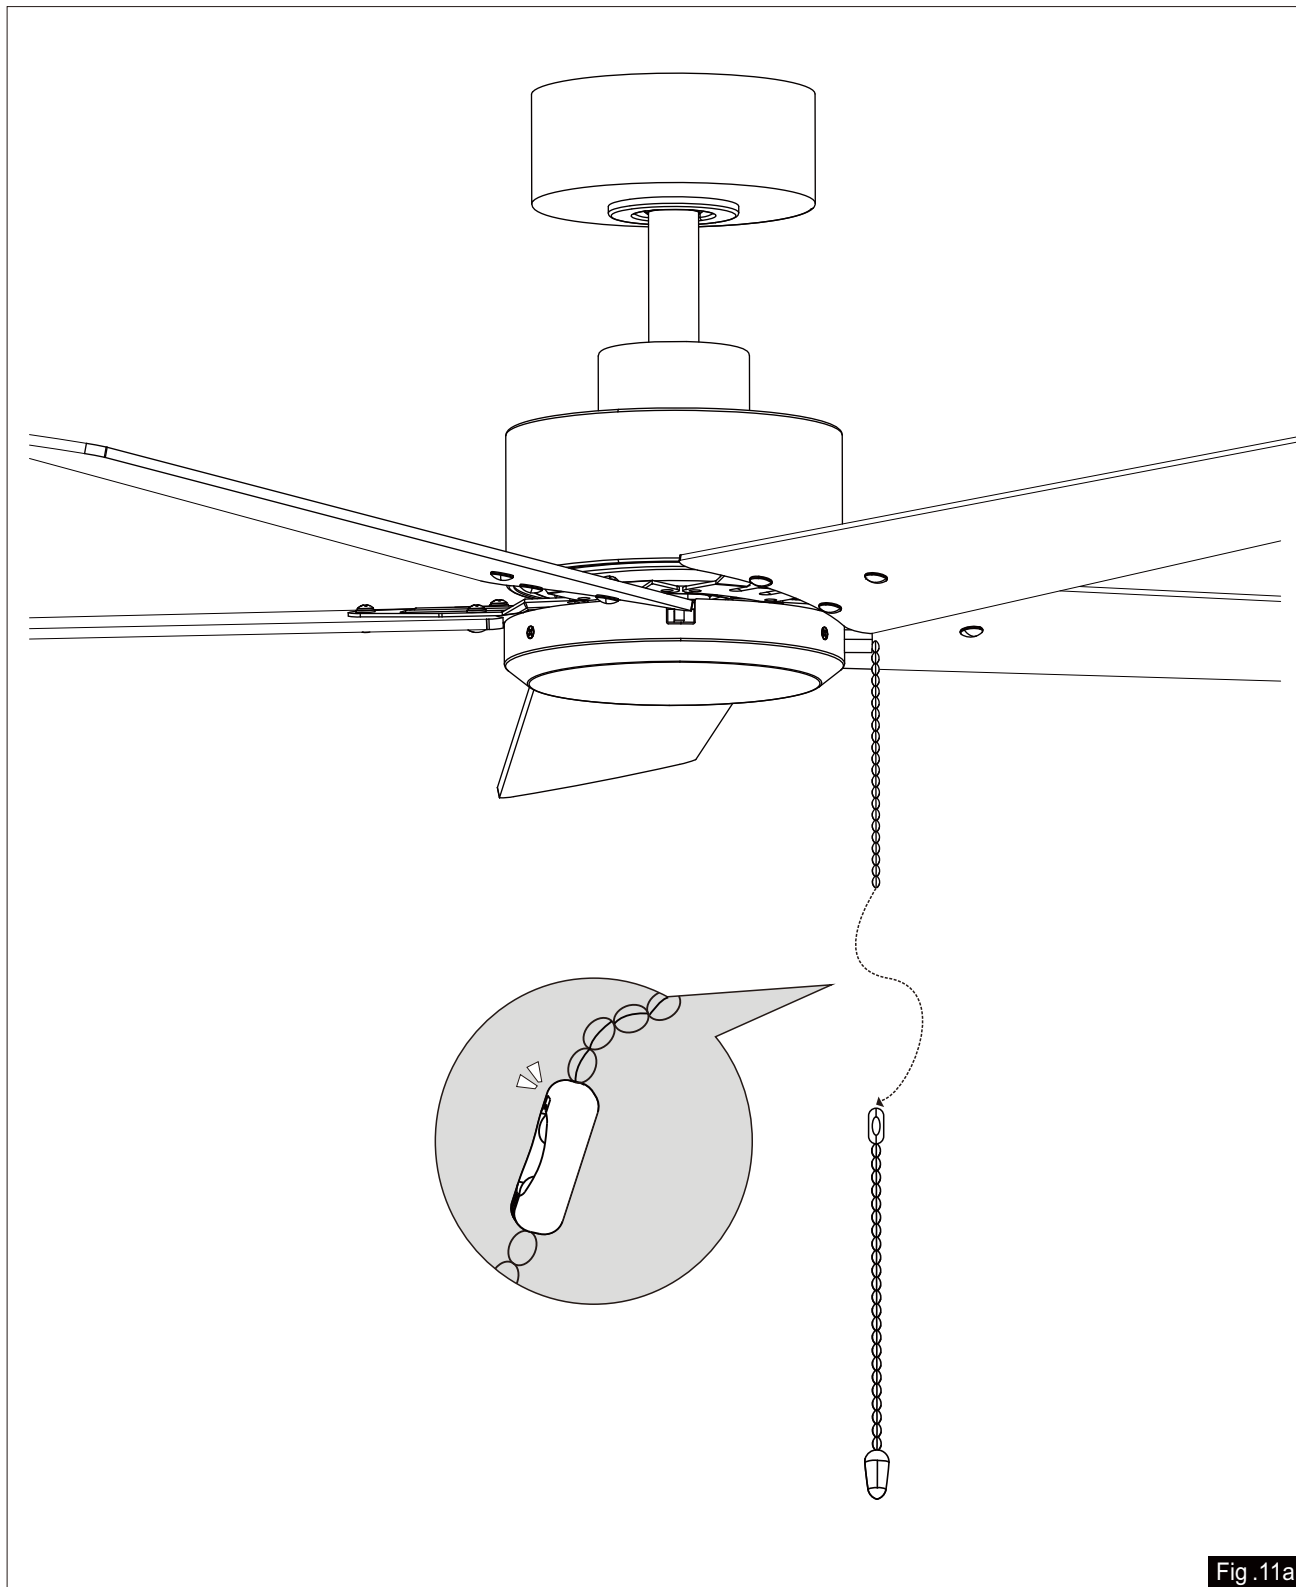

Fig.11a
- For lightless models, connect the included pull chain with knob to the fan switch chain using the latch. Ensure it is securely attached. (Fig. 11a)